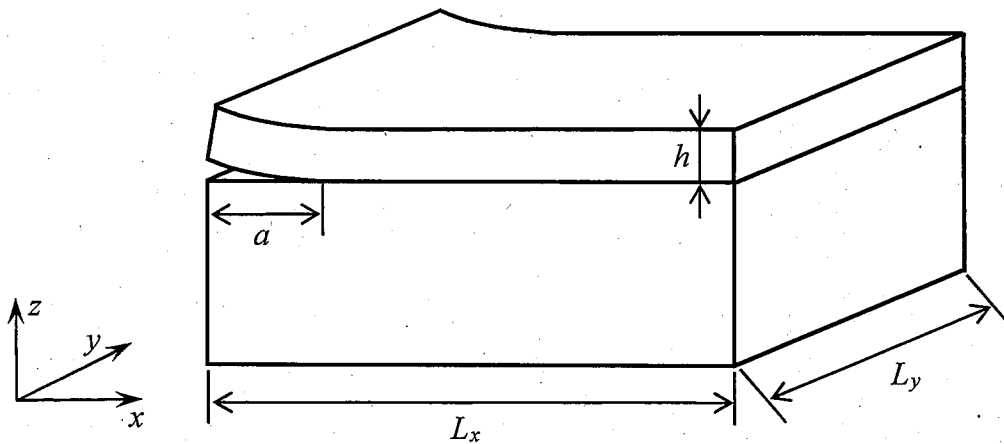

Figure 1-3
- (5) Consider the quantity of strain energy release when a thin film (thickness h) under biaxial tension ($\sigma_x = \sigma_y = \sigma_0$) adhered on a substrate undergoes delamination from its edge with a length of a , as shown in Figure 1-3. Using Δu obtained in Question (4), estimate the released strain energy of the thin film per delamination area (strain energy release rate). Here, the film is sufficiently thin ($h/L_x \ll 1, h/L_y \ll 1$) and change in stress along the z axis can be ignored.